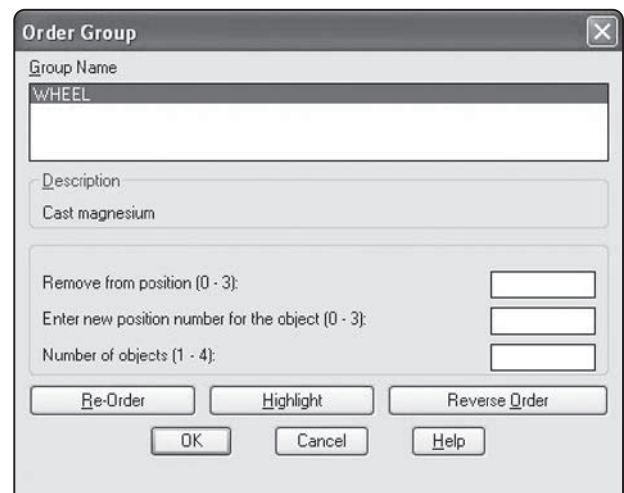

Fig. 32-3
2. Pick the **Re-Order...** button to make the **Order Group** dialog box appear, as shown in Fig. 32-3.